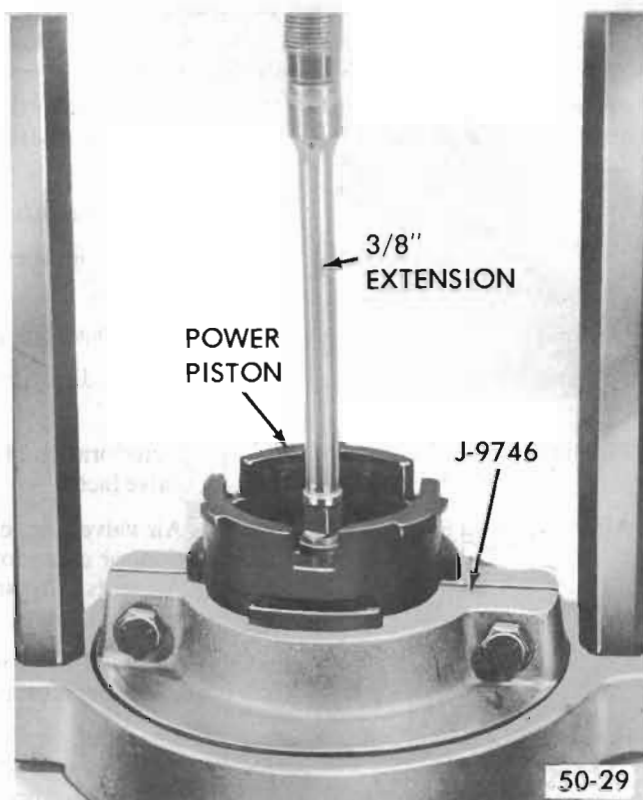

Figure 50-110 Removing Air Valve Assembly
11. Set up Power Ram and Hydraulic Pump with J-9746 Press Plate. Insert power piston, tube down, in press plate and remove air valve assembly using a 3/8" drive extension as a remover. See Figure 50-110.